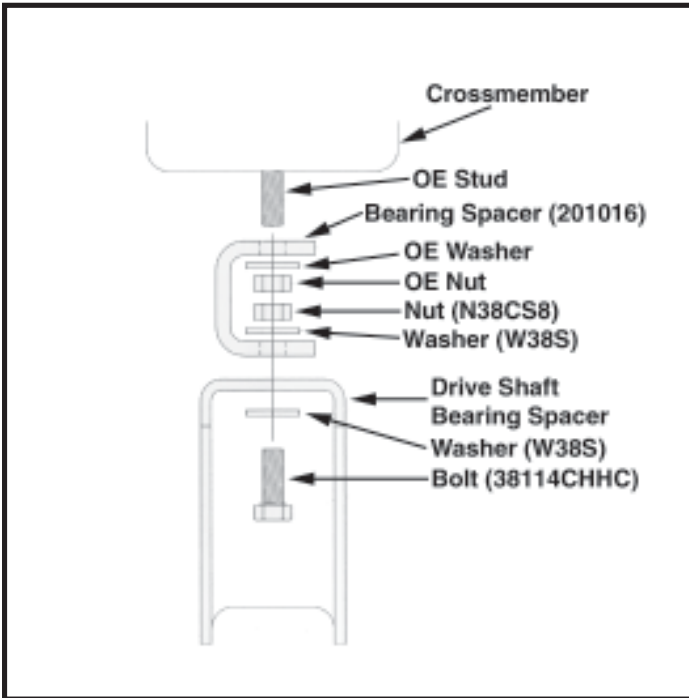

Fig. 20
20. Install rear driveshaft CENTER BEARING SPACER per Fig. 20.